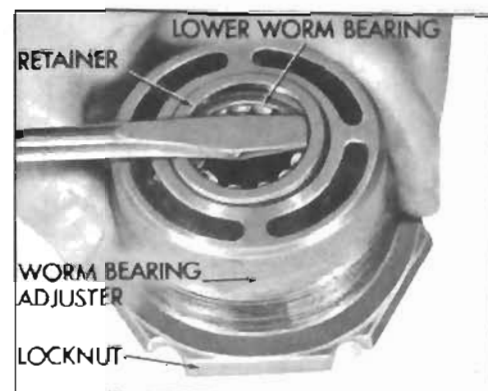

Figure 8-12—Removing Lower Worm Bearing Retainer
9. Remove lower worm bearing from adjuster by prying retainer out with a screwdriver. See Figure 8-12.
10. Remove ball return guide clamp and guides from ball nut. Turn ball nut over and rotate worm shaft back and forth until all balls (50) drop out into a clean cloth. Remove ball nut from worm shaft.